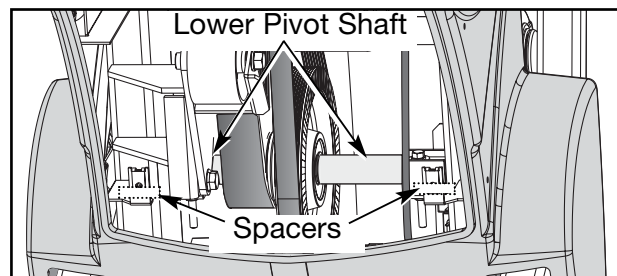

Figure 3
- B.** Locate the spacers under the lower pivot shaft. Visually check that the spacers are in place and in good condition. If the spacers are visibly cracked or missing, a qualified service technician should follow the *Drive Belts* procedure in the *Service* chapter. See Figure 3.